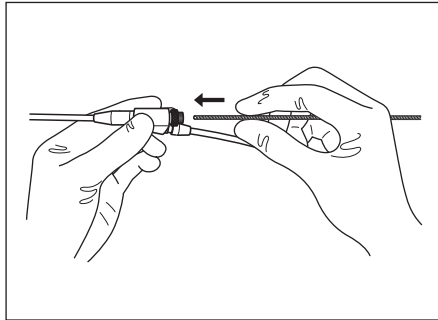

Figure 3.5
5. Insert the insertion section of the industrial retrieval tool into the channel port (see Figure 3.5).